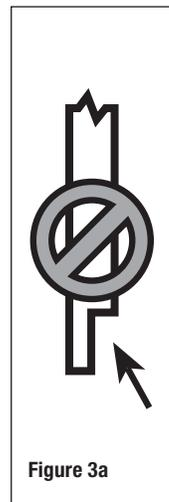

Figure 3a
**Important: Do not notch the 4x4 railing posts (Figure 3a).** Notching will reduce the strength of the post and could result in railing collapse or failure.